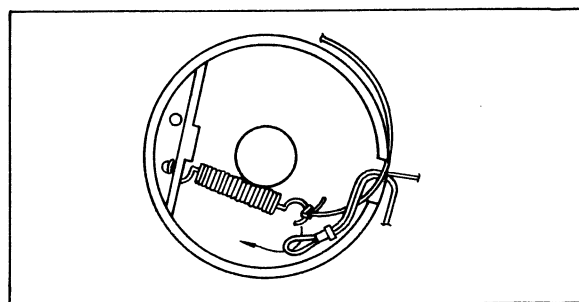

Fig. 2-11 Finishing dial cord stringing
5. Pass the doubled end of the cord through the eyelet, then hook it to the spring as shown in Fig. 2-11.